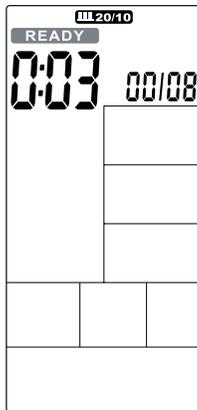

Figure 28
2. The cycle timer will count down from 3 to 0, and the console will start. During this time, the buzzer will beep once per second, and the **READY** icon will flash once per second. The display will show "00/08" (see Figure 28).